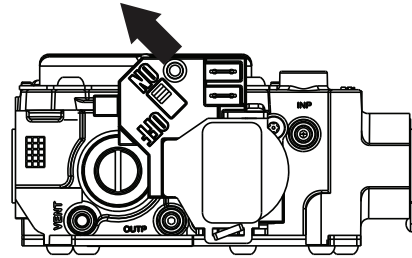

Fig. 8 – Control Switch to ON
- Turn the control switch to ON, see Fig. 8.